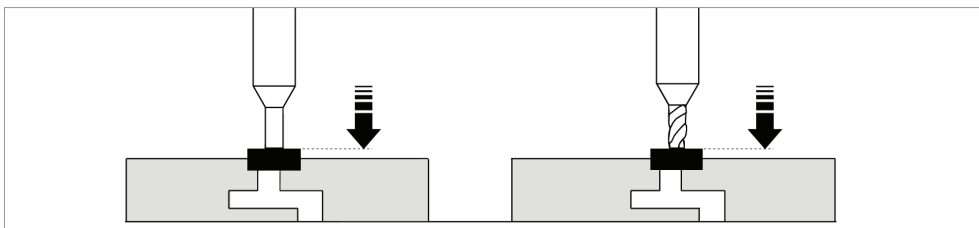

Fig. 20
- 8) Hold the lever (J) tight, turn the central nut (N) anticlockwise until the cutter skims the key in the right-hand clamp (Fig. 20). Release the lever (J) and turn off the motor.
- 9) Hold nut (N) still and lock the bottom nut (H2).
**Note: to cut laser type keys lock the nut (O) to deactivate the tracer spring.**